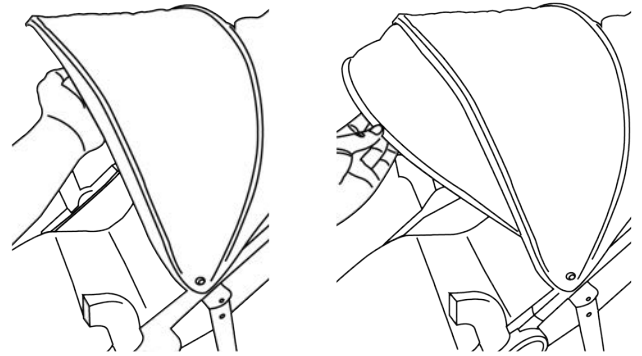

Fig. 5
8. To open the sun visor: grab front edge of sun visor under canopy and pull down and rotate forward until fully extended (Fig. 5).